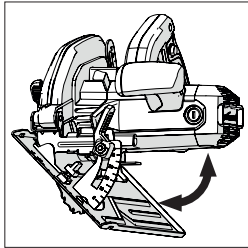

Fig. 14
- Tilt the blade to the required angle as indicated on the quadrant protractor scale. **(Fig. 14)**
(14) OPERATING ADVICE